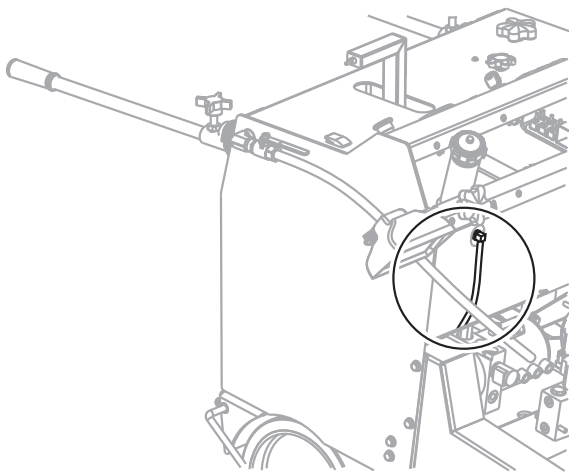

Figure 23. Fuel Gauge
1. Determine if the engine fuel is low. (Figure 23)